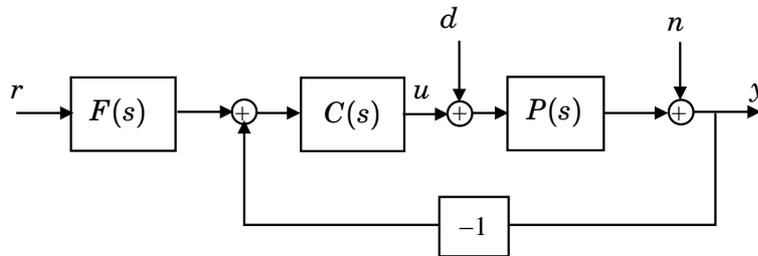

Figure 4.1 Our control loop with reference signal r , load disturbance d , measurement noise n and output y .
The structure of the control system is given in Figure 4.1. As you may have already heard, several transfer functions should be studied in a design. Besides a nice step response from r to y , also a fast recovery from, e.g., load disturbances, d is required. Furthermore, it is important to see how the control signal responds to the different input signals.
- 4.6 (*) Consider the control system in Figure 4.1, where the plant is described by